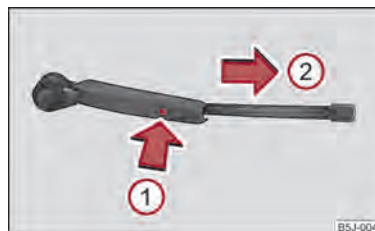

Fig. 35 Wiper blade for the rear window
- Fold windscreen wiper arm out from the windscreen and position the wiper blade at right angles to the wiper arm ⇒ fig. 35.
- With the other hand unlock the locking button (1) and remove the wiper blade in the direction of arrow (2).